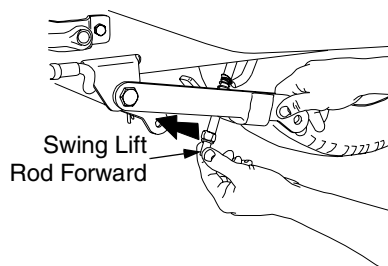

Figure 36C
- Swing the LH lift rod forward until fully to the front of the lift link slot (See Figures 36C and 36D).